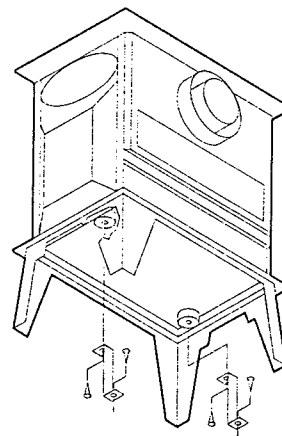

Figure 12
- A. Locate the raised boss areas on the bottom of the stove (Figure 12.)